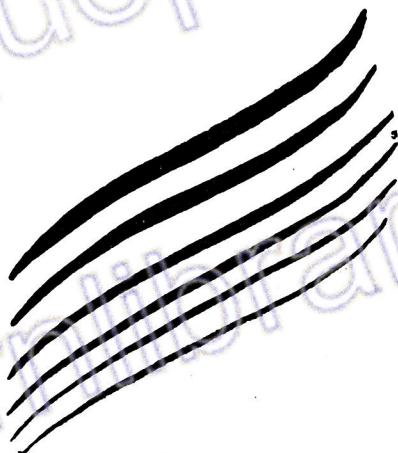

FIG. 20.
*How to Paint in Outline.*—Make some strokes (fig. 20) on a piece of glass and let them dry; some people like them to stick very tight to the glass, some so that a touch of the finger removes them; you